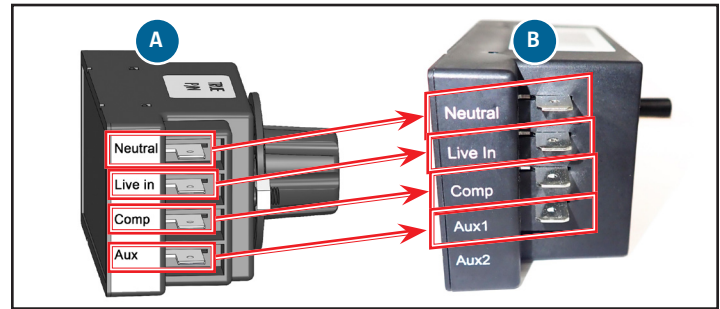

Fig. 5. Existing wiring configuration (A) and the replacement wiring configuration (B).
3. Connect the labeled wires to the replacement temperature control as follows (see fig. 5):